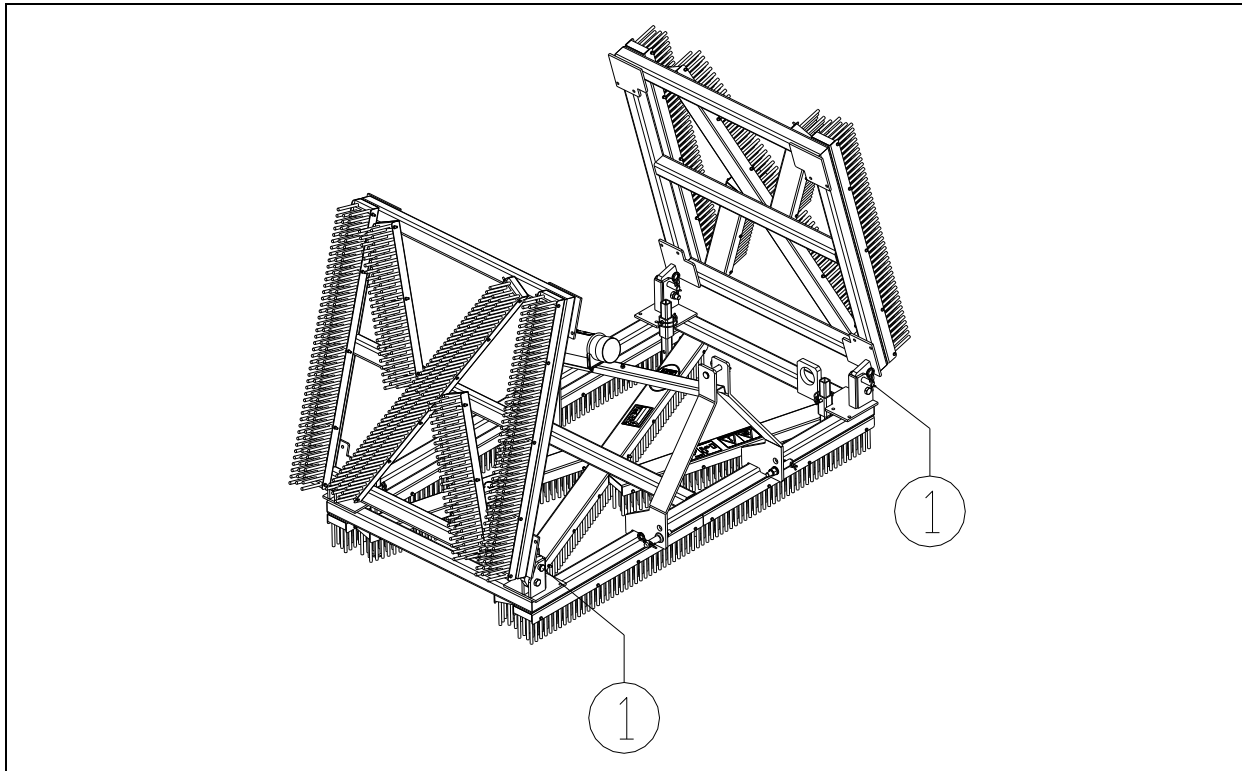

Figure 8
**⚠ Always transport the Verti-Comb with the side-panels folded! Secure the locking mechanism (1) with the locking pin (see Figure 8).**